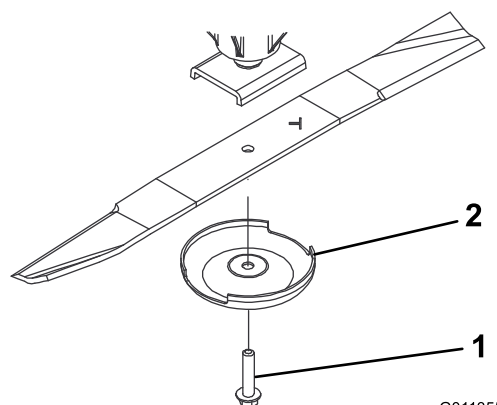

Figure 96
2. Grasp the end of the blade using a rag or thickly padded glove. Remove the blade bolt, anti-scalp cup, and blade from the spindle shaft (Figure 96).
3. Install the blade, sail facing toward the cutting deck, with the anti-scalp cup and blade bolt (Figure 96). Tighten the blade bolt to 115 to 149 N·m (85 to 110 ft-lb).
If the blade is allowed to wear, a slot will form between the sail and flat part of the blade (Figure 96). Eventually a piece of the blade may break off and be thrown from under the housing, possibly resulting in serious injury to yourself or bystanders.